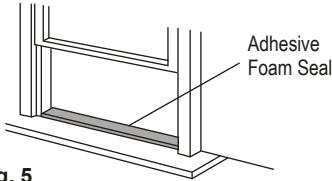

Fig. 5
1. Cut 1 piece of Adhesive Foam Seal to the proper length, raise the window sash and attach the foam to the window stool (Fig. 5)